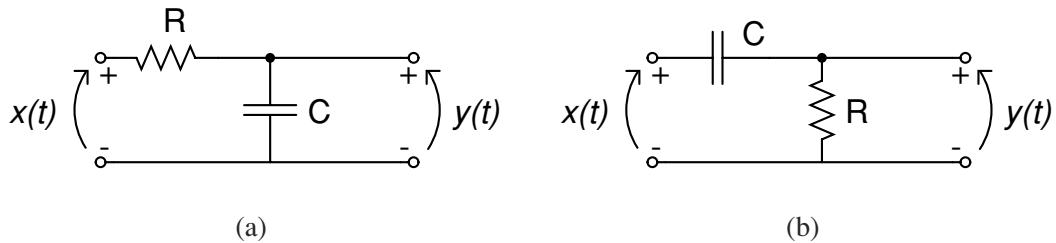

Figure 8.8
The resistor-capacitor (RC) circuits of Fig. 8.8 represent first order, linear, time-invariant systems. In both circuits, the input signal is $x(t)$ and the output signal is $y(t)$. The circuits of Fig. 8.8(a) and (b) are referred to as *RC integrator* and *RC differentiator* respectively. In this section we focus only on the properties of the RC integrator. The properties of the RC differentiator will be described in Chapter 9.
The integrator circuit of Fig. 8.8(a) is governed by the differential equation:
Consider again the RC circuit of Fig. 8.8. As mentioned in Section 8.5, this circuit is governed by
Bode plot of a first order linear system, such as the RC circuit of Fig. 8.8. (a) Magnitude, (b) Phase.